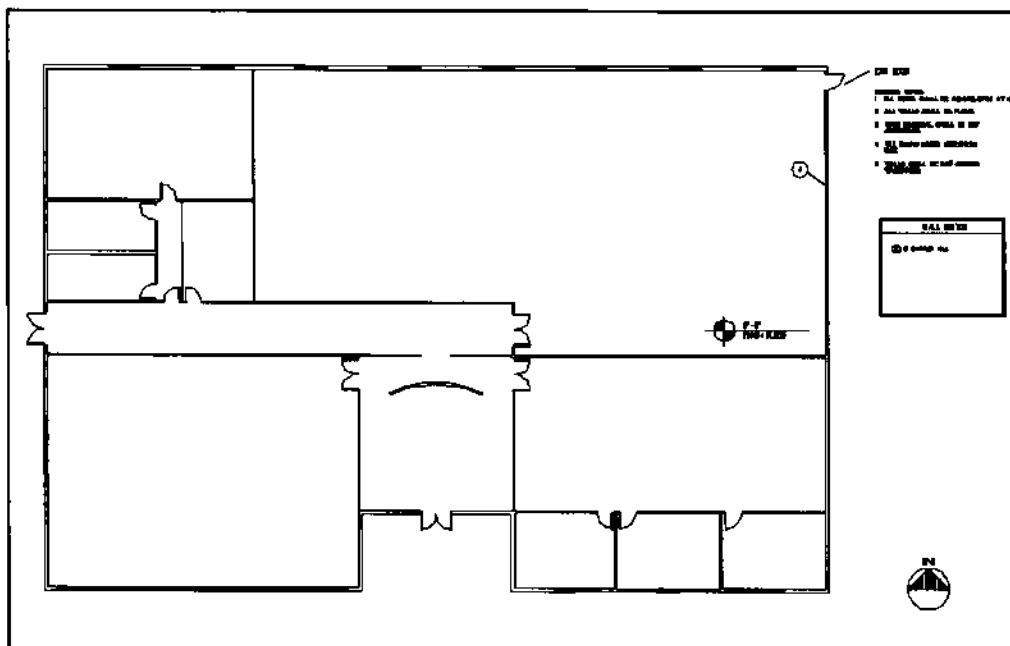

Figure 29.
1. Insert a north arrow at the bottom right corner of the drawing, as shown in Figure 29.
- > Pick insertion point: [pick point at bottom right corner of drawing as shown in Figure 29]
3. Select Level from the Tags submenu, under Reference, to place the symbol, as shown in Figure 29, into the drawing.
5. Drag the image to the left of the screen to create a line where text can be inserted above and below, as shown in Figure 29.
- > Pick leader start point: [pick start point of leader line as shown in Figure 29; a ghosted image of the level tag appears]